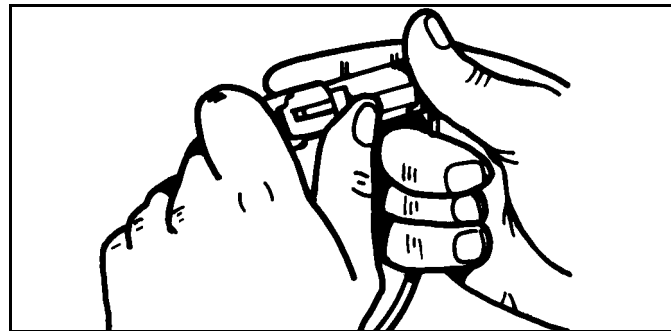

Figure 3-12
1. Open connector body. (See Figure 3-12)